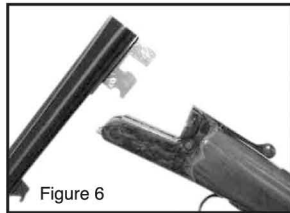

Figure 6
- Holding the barrel assembly in one hand and the frame assembly in the other hand, engage the recess in the barrel lug onto the hinge pin in the frame (Figure 6 & 7).